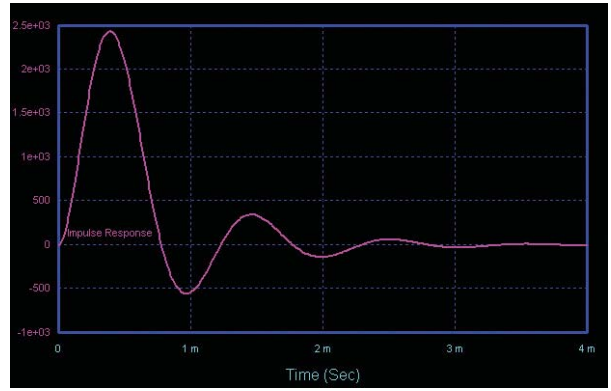
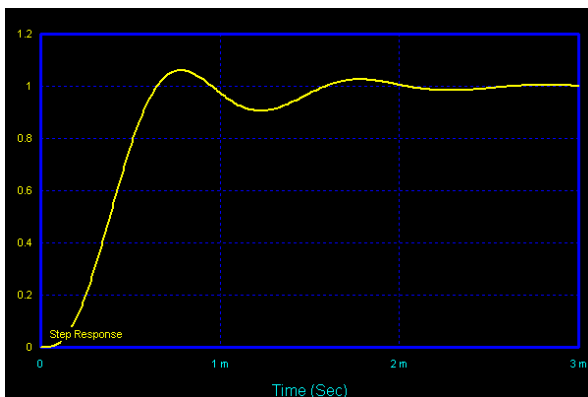

Fig.7. Type-I Chebyshev third-order low-pass 1kHz filter impulse response
Fig.4. Type-I Chebyshev third-order low-pass 1kHz filter step response
*Regarding the Filters Circuits Design of July '09 (Part 1). What is the importance of the 'time domain response' (Fig 4) for filter design? When is it necessary to examine it by applying a step input signal?*
An example impulse response (filter output) is shown in Fig.7. This is for the same Chebyshev filter as the step response in Fig.4. Again, we used Filter Free to plot this graph.